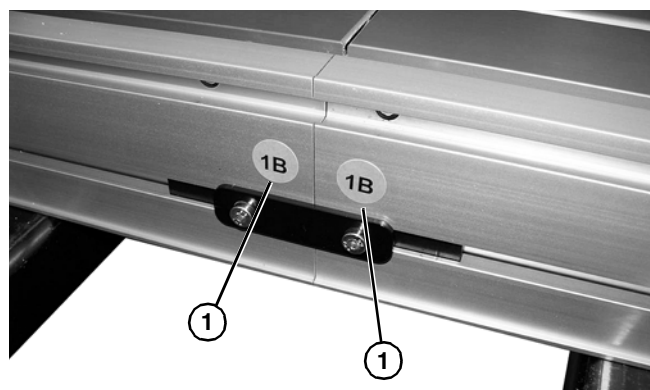

Figure 4
1. Locate and arrange conveyor sections by section labels (**Figure 4, item 1**).